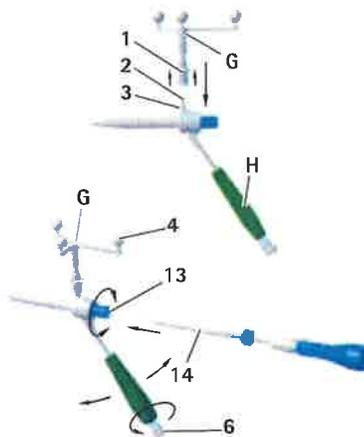

Fig. 8 Mounting the Aesculap star unit on the S4C guide sleeve for smooth-shank screws.
- To ensure the camera has an unrestricted view of the reflective marker spheres, unscrew knob **6** on the S4C handle of the S4C guide sleeve H and turn the Aesculap star unit **G** to the desired position, see Fig. 8.